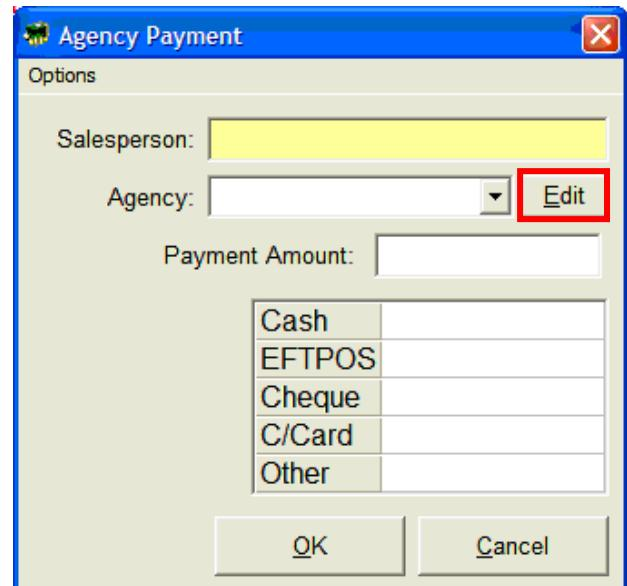

Figure 56
1. To merge an Agency, select the 'Edit' button (as shown in Figure 56).